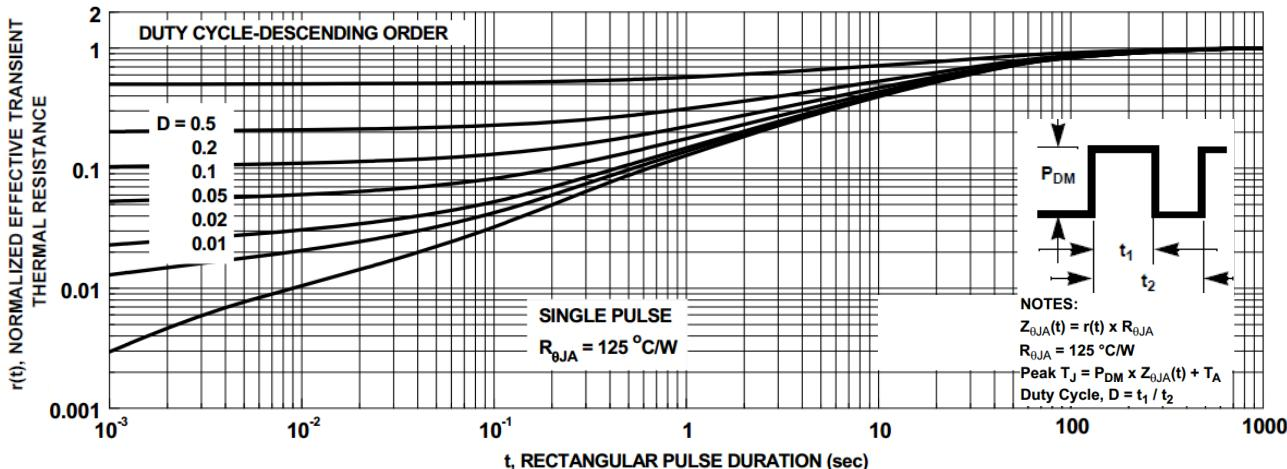

Figure 10. Junction-to-Ambient Transient Thermal Response Curve
The steady-state thermal resistance values are not enough to find a peak junction temperature in terms of pulse driven applications. Figure 10 provides the normalized effective transient thermal resistance, $r(t)$, as a function of the rectangular pulse duration at a given duty cycle. As the duty cycle and the pulse duration increase, the transient thermal impedance gets close to 1. This means the transient thermal resistance approaches steady-state resistance. It calculate the transient thermal impedance, $Z_{\Theta JA}(t)$, which is used to estimate the junction temperature, T_J , resulting from a transient power dissipation by using Equations (6) and (7):
For example, when FDMS86101A is conducting during 1 ms out of the 2 ms period which is the 0.5 duty cycle, the $r(t)$ from Figure 10 is 0.5. The junction-to-ambient thermal resistance, $R_{\Theta JA}$ on the minimum pad of 2 oz copper is 125 ° C/W from Table 6. Then the $Z_{\Theta JA}(t)$ of FDMS86101A mounted on the minimum pad of 2 oz copper is 62.5 ° C/W by using Equation (6).